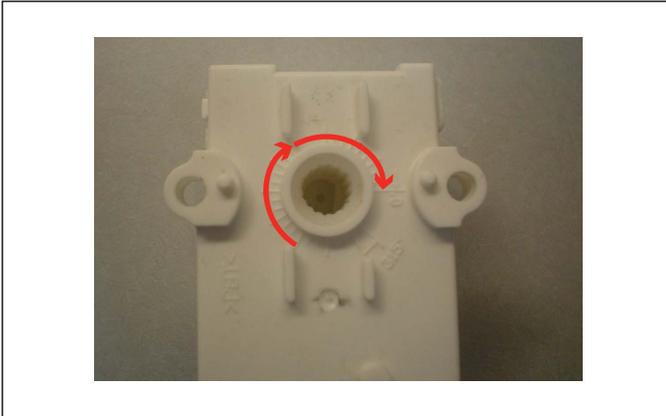

Figure 3
7. On the motor side, slowly rotate the gear clockwise to "0" (Fig. 3). There are gears inside this motor that cause resistance, do not try to move it fast or you will damage the gearing.